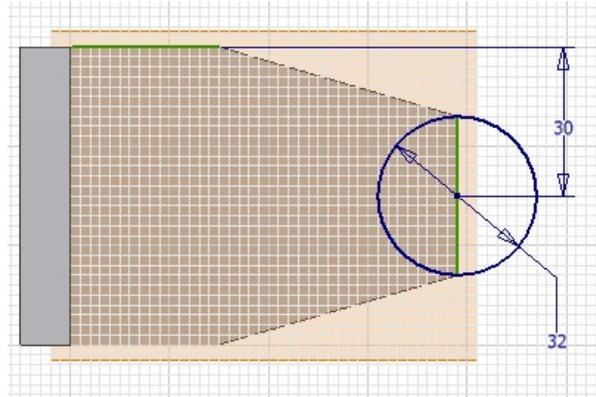

Figure 5-101 Sketch for the cylindrical feature
4. Choose the **Start 2D Sketch** tool from the **Sketch** panel of the **3D Model** tab and select the work plane as the plane for drawing the sketch of the cylindrical feature. Next, reorient the model, if required, using the ViewCube, see Figure 5-101. Increase the drawing display area using the scroll wheel of the mouse, if required.
5. Draw a circle and then add the required constraints and dimensions to it, see Figure 5-101.